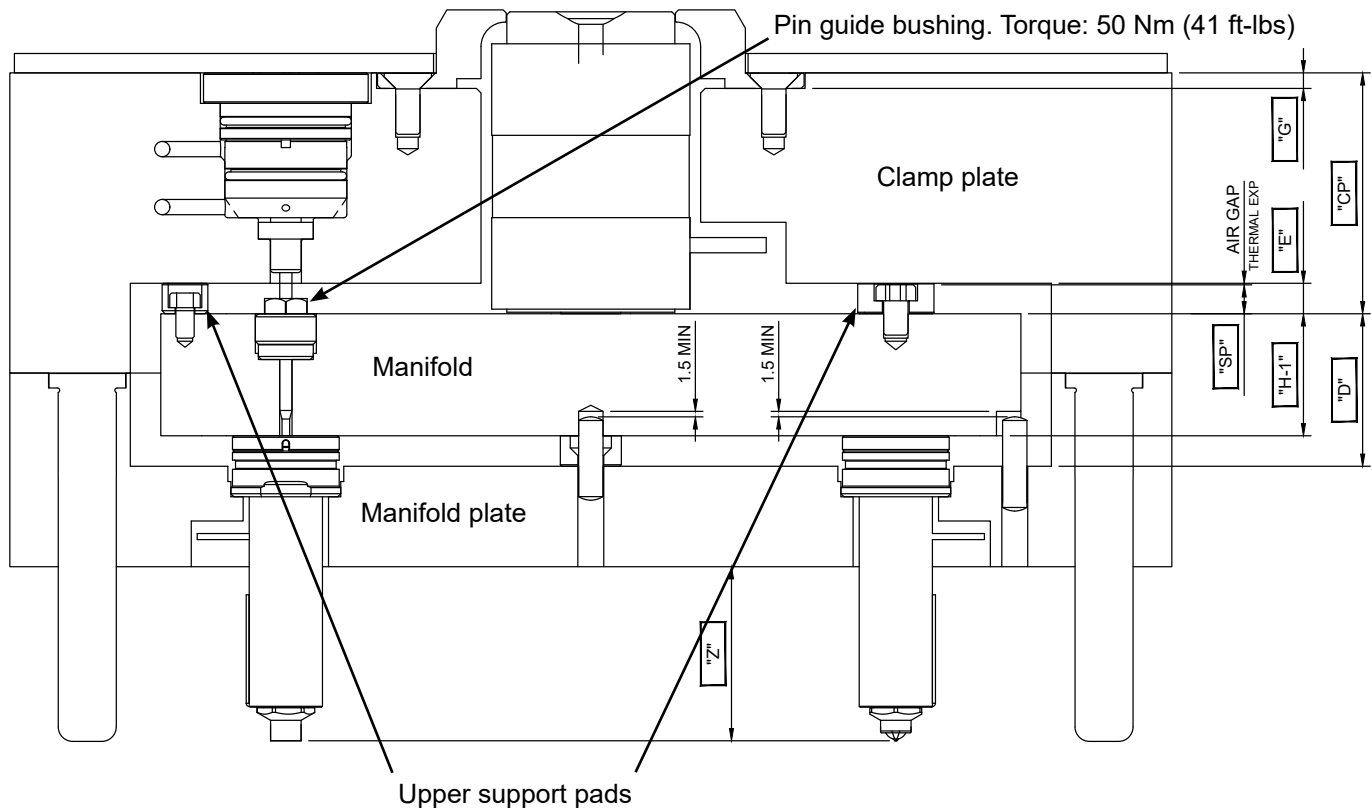

Figure 6 Locations of Support Pads and Pin Guide Bushing
Size and install the upper support pads into the underside of the clamp plate. (Note: The upper support pads are manufactured from a non-magnetic material. Fabricate a fixture to the grinder to hold the support pad.) This dimension will be the “E” dimension minus air gap (cold clearance) specified on the system general assembly drawing (see Figure 6 Locations of Support Pads and Pin Guide Bushing). Record this as dimension “SP” on the Master Inspection Sheet.
- a. Install the VG pin guide bushing and retaining screw into the threaded holes in the top of the manifold. Tighten the pin guide bushing to a torque 50 Nm (41 ft-lbs). See Figure 6 Locations of Support Pads and Pin Guide Bushing.
- Install the VG pin guide bushing and retaining screw into the threaded holes in the top of the manifold. Tighten the pin guide bushing to a torque 50 Nm (41 ft-lbs). See Figure 6 Locations of Support Pads and Pin Guide Bushing.